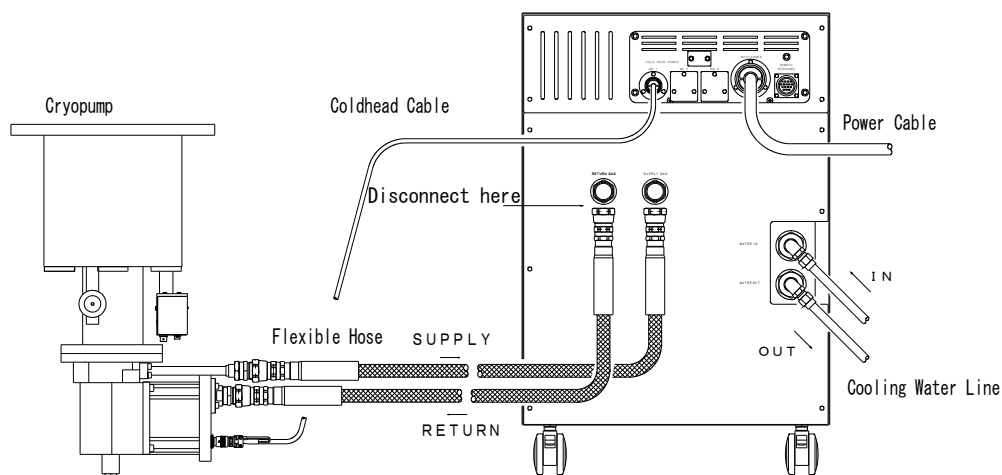

Figure 8-2 Disconnecting Flexible Hoses
3. Right after shutdown of the system, disconnect the helium SUPPLY and RETURN flexible hoses at rear of the compressor unit. (See Figure 8-2.)